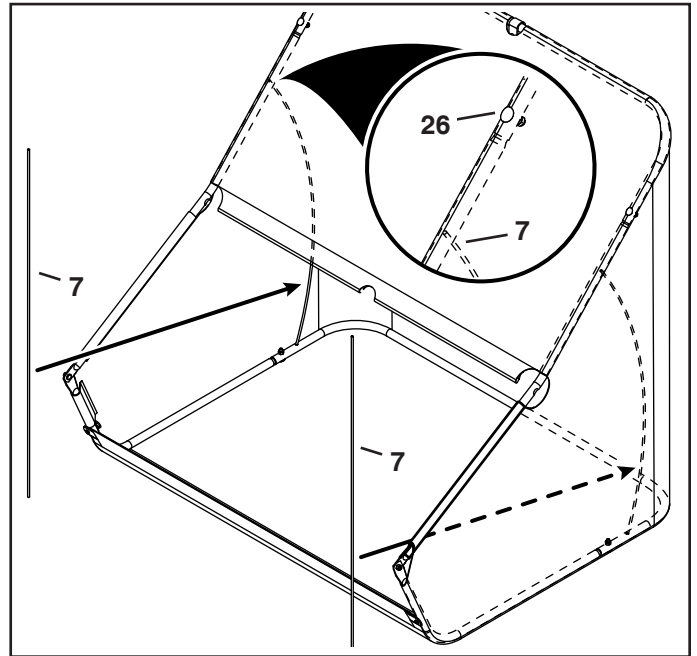

FIGURE 15
**STEP 15: (SEE FIGURE 15)**
- Insert the hopper support rods (7) into the hole beneath the curved head bolt (26) in each upper hopper tube. Flex and insert the rod into the hole in the bottom rear hopper tubes as shown.
**NOTE:** The hopper support rods will flex about as much as shown in figure 15 when they are assembled.